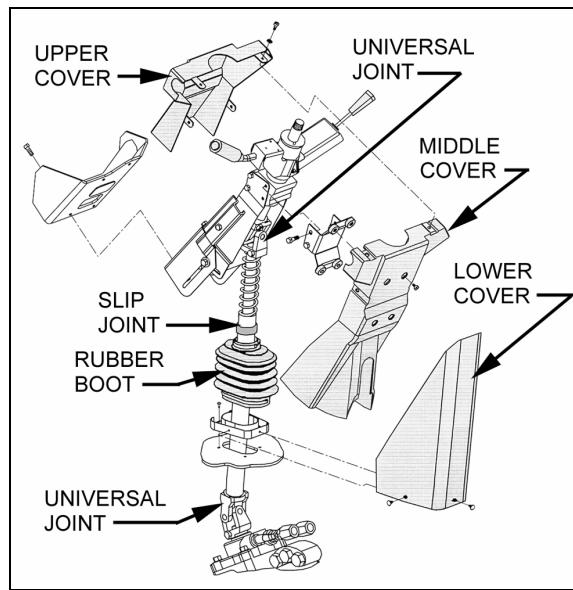

FIGURE 9: STEERING COLUMN COVERS
1. From the front driver's compartment area, remove the three plastic fasteners on steering column lower cover. Remove the lower cover (Fig. 9).
- Remove the 2 clockspring mounting screws and then remove the clockspring. You will have to disconnect the clockspring harness connector located lower along the steering wheel column. If necessary, remove the steering column covers (Fig. 9).